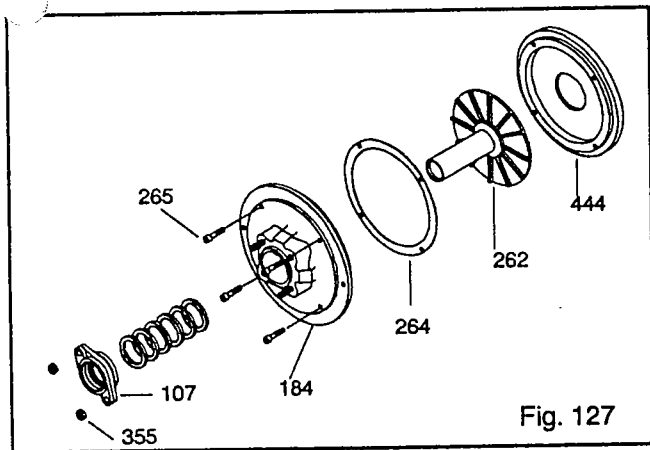
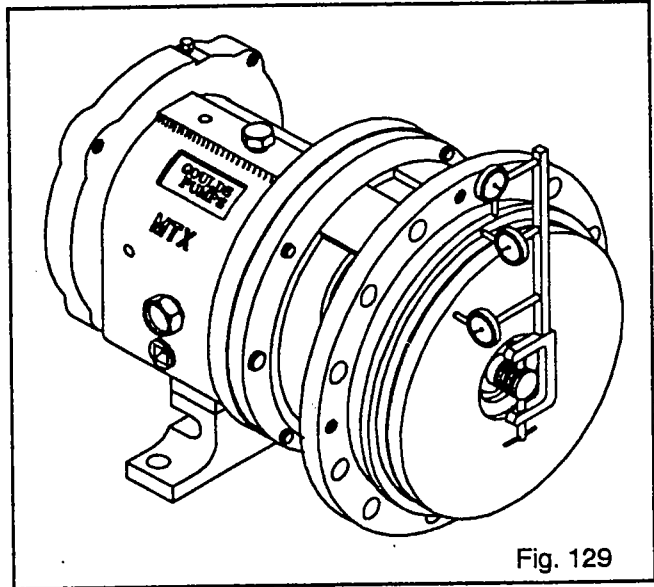

Fig. 127
Fig. 129
1. Place backplate (444) flat side down on the bench (Fig. 127).
2. Place repeller (262) in backplate (444), sleeve side up.
3. Place teflon gasket (264) on backplate (444), lining up holes.
4. Place stuffing box cover (184) on backplate (444), lining up holes.
5. Install four (4) socket head cap screws (265), tighten securely.
7. Install gasket (360Q) and gland (107) on stuffing box cover (184). Install nuts (355).
9. Check stuffing box cover run-out. Rotate indicator through all 360 degrees. Total indicator reading greater than 0.005 in. indicates a problem (Fig. 129).